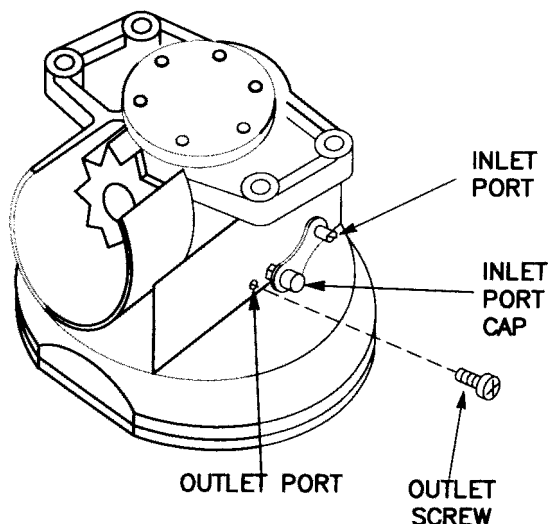

Figure 3-9 Rate Tachometer
f. Rate Tachometer (fig. 3-9). Refer to para 3-5.a. for procedures.